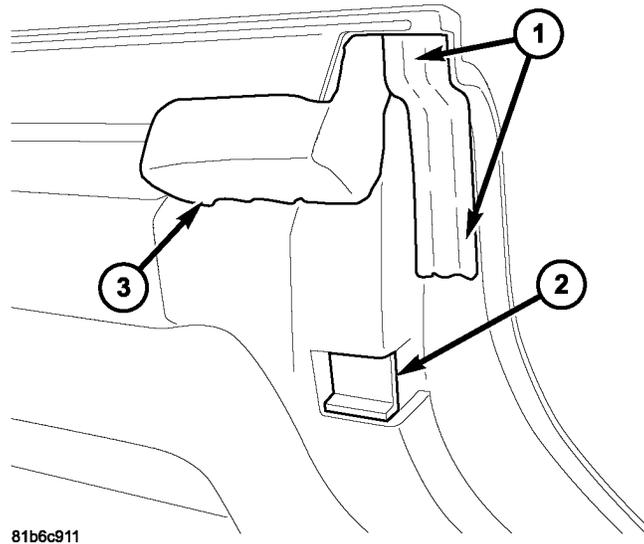

Fig. 5 REAR CORNER FOAM OF FREEDOM PANEL
5. If the water trace is over the top of the hard top seal at the outboard corners, examine the rear outboard corners of Freedom Panel for damaged or missing foam, (Fig. 5). Replace if required with foam in kit p/n 68026937AA.
4. Examine the rear outboard corners of Freedom Panel for damaged or missing foam, (Fig. 5). Replace if required with foam in kit 68026937AA.